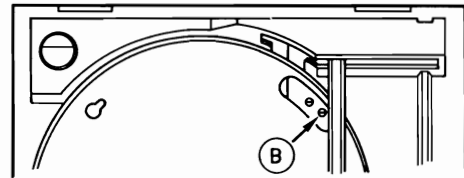

Figure 25
If the setting is off, turn and adjust eccentric pin (B) used for adjustments of the unit plate as shown in Figure 25.